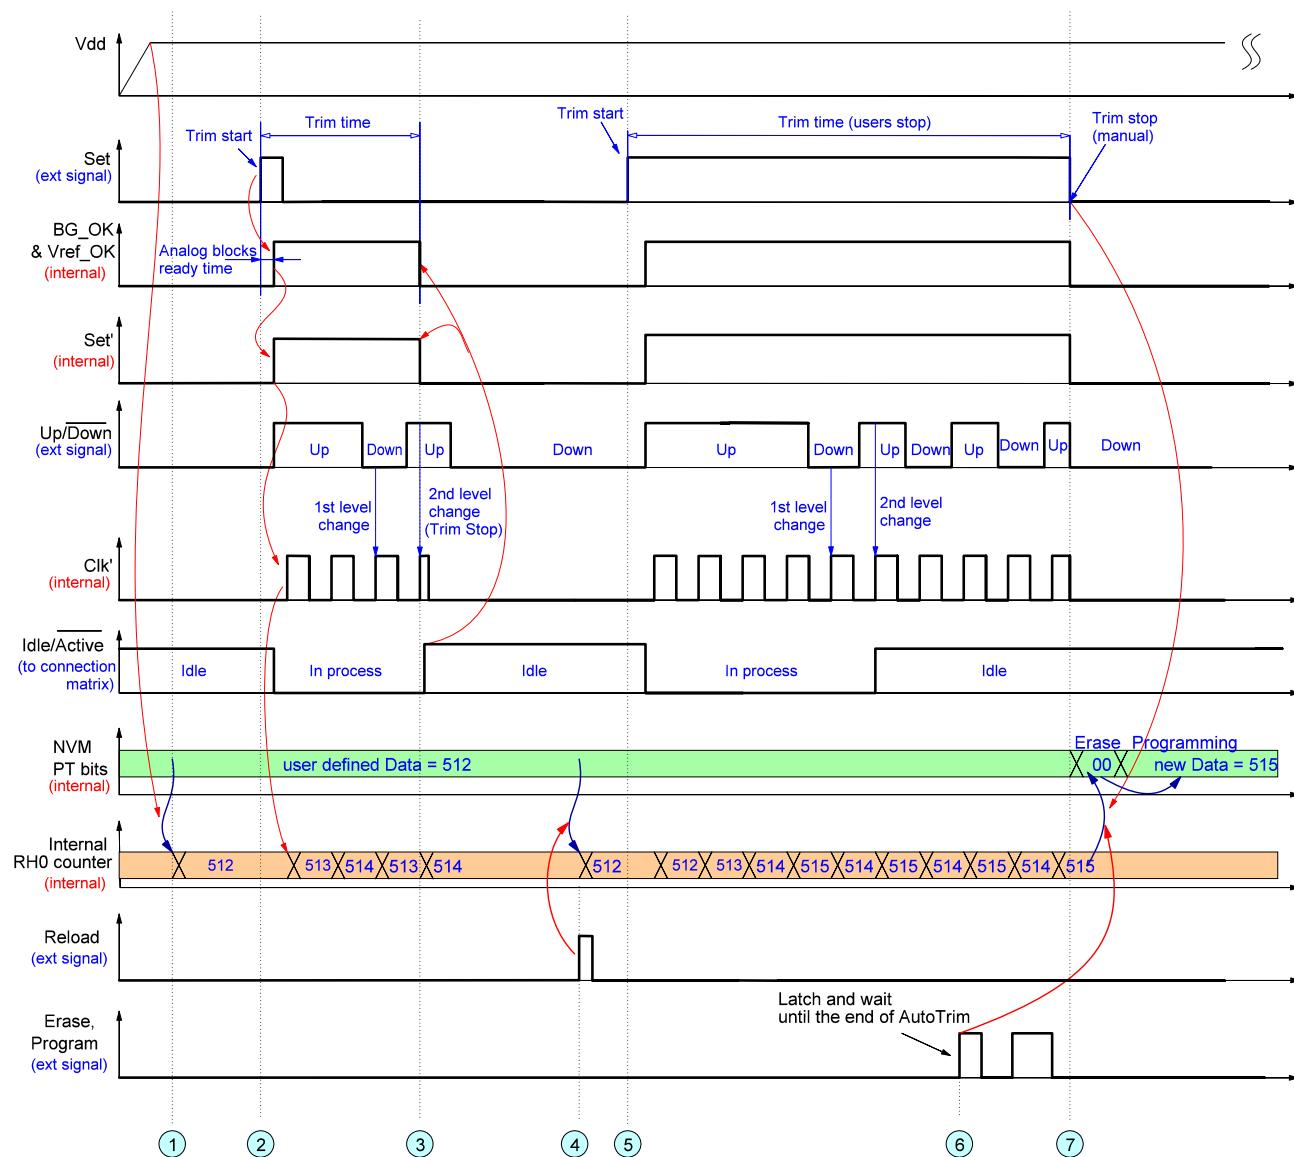
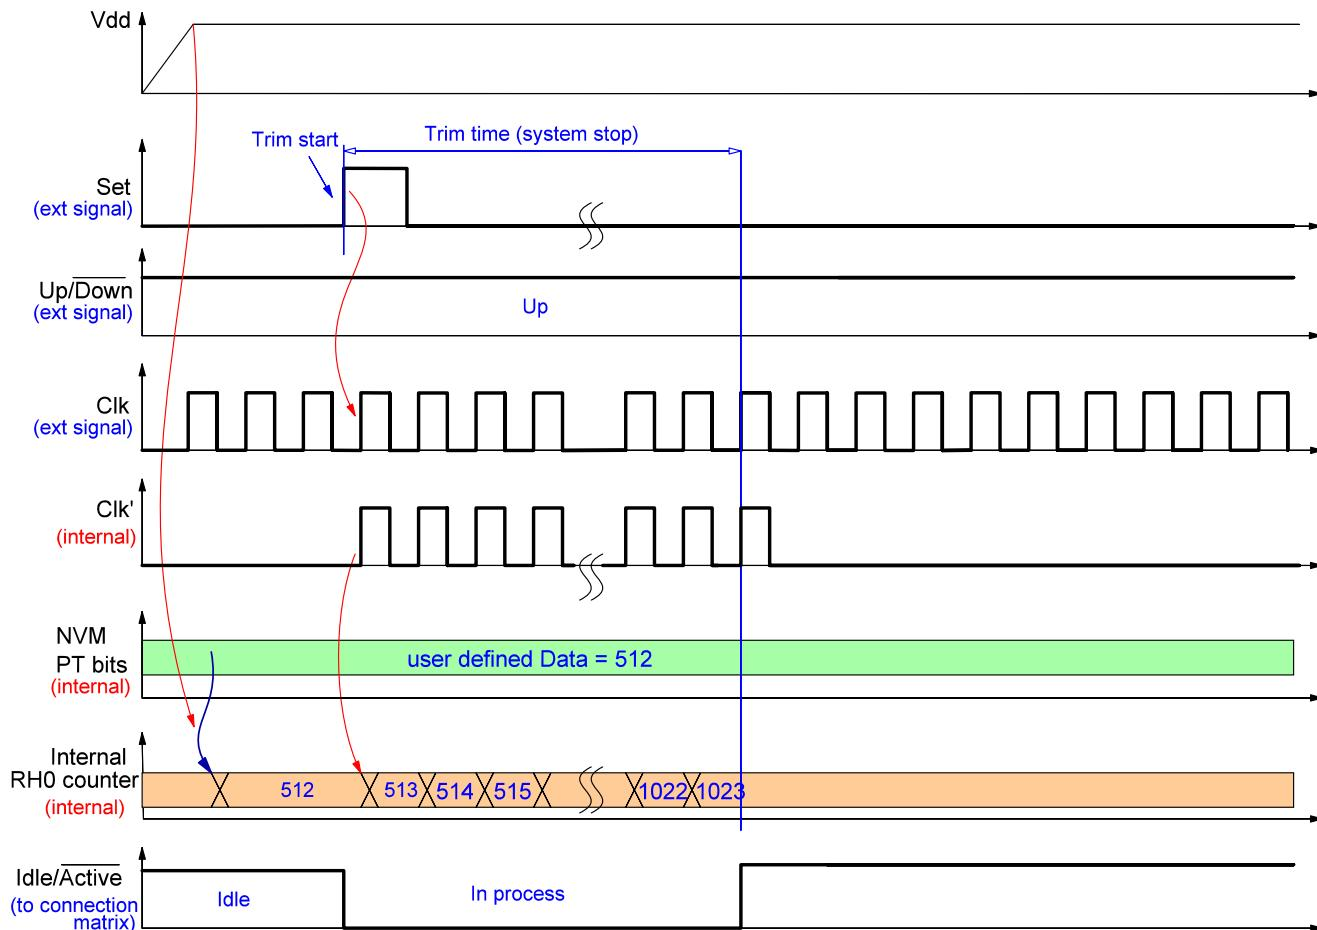
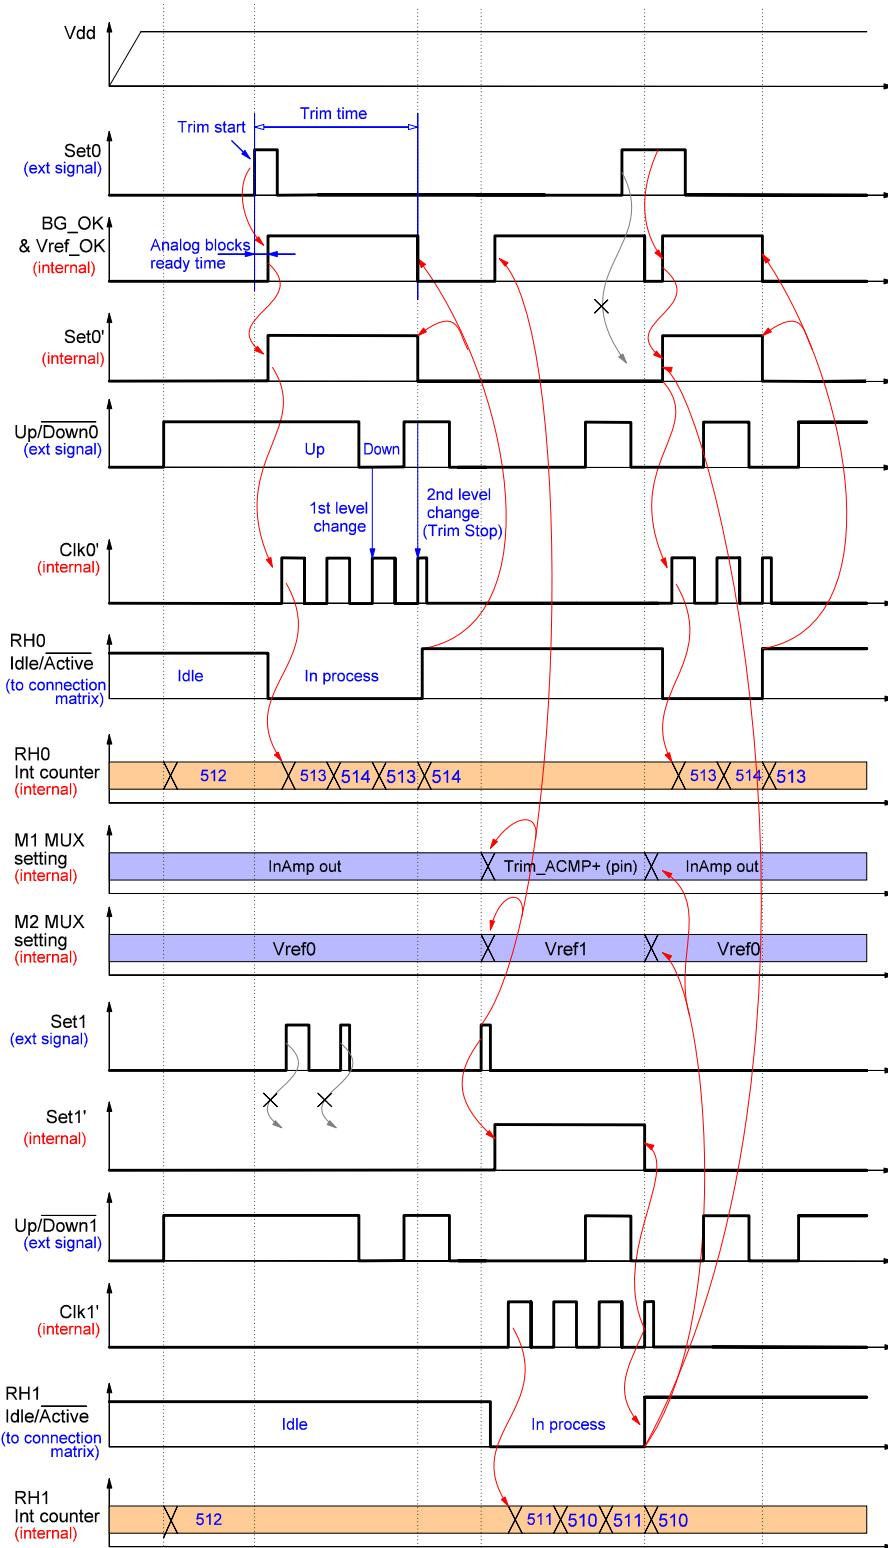

Figure 107: Example of Auto-Trim Process for a Single Rheostat
Figure 108: Example of Auto-Trim Process with External Clock Signal
Figure 109: Example of Auto-Trim Process for Two Rheostats
1) 2nd time change on Up/Down input at the moment of rising edge on Clock input (see Figure 107).
3) the value of rheostat reaches its minimum (0).
The detailed flow of Auto-Trim process is shown in Figure 107, Figure 108, Figure 109.
The key events of the Auto-Trim process are the following (see Figure 107):
If the Set input signal is shorter than the trim time, the Auto-Trim process stops automatically after a stop condition occurs (event 3, Figure 107). However, if a stop condition comes and High logic level holds on the Set input, the rheostat value will be switched near the set point until a Low level on the Set input occurs (event 7, Figure 107). Note that the Idle/Active signal changes its level to High (Auto-Trim is done) even if the user keeps a High logic level at the Set input.
Figure 108 shows a similar Auto-Trim example. The only difference is that the user defined clock source as “External clock” from connection matrix. The clock pulses are present at the Clock input all the time, but have effect (rheostat value changes) during Trim time only. The stop condition for this case is the following: PT block reaches boundary value of 1023 and the logic level at change Set input is Low.
Figure 109 shows Auto-Trim process flow for two rheostats.